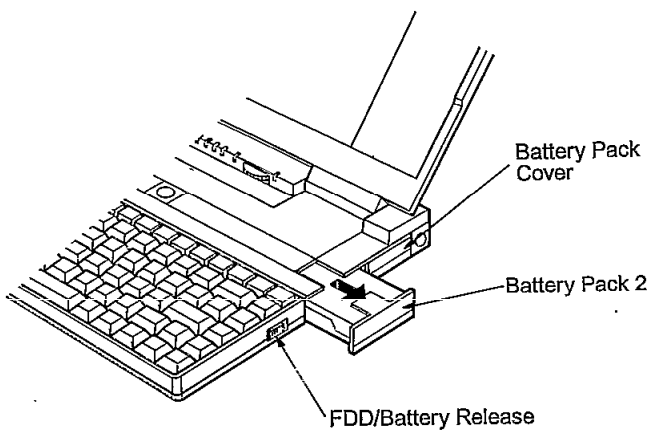

Figure 9
2. While sliding the FDD/Battery Release latch in the direction of the arrow <X>, pull out battery pack 2 in the direction of the arrow <Y>. (Refer to Figure 9)